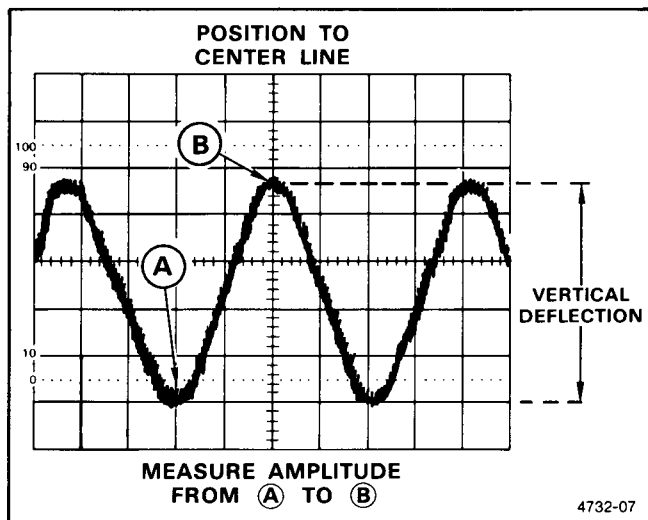

Figure 4-2. Peak-to-peak waveform voltage.
6. Vertically position the display so that the negative peak of the waveform coincides with one of the horizontal graticule lines (see Figure 4-2, Point A).
7. Horizontally position the display so that one of the positive peaks coincides with the center vertical graticule line (see Figure 4-2, Point B).
8. Measure the vertical deflection from peak-to-peak (see Figure 4-2, Point A to Point B).
EXAMPLE: The measured peak-to-peak vertical deflection is 4.6 divisions (see Figure 4-2) using a 10X attenuator probe with the VOLTS/DIV switch set to 5 V (at 10X PROBE setting).